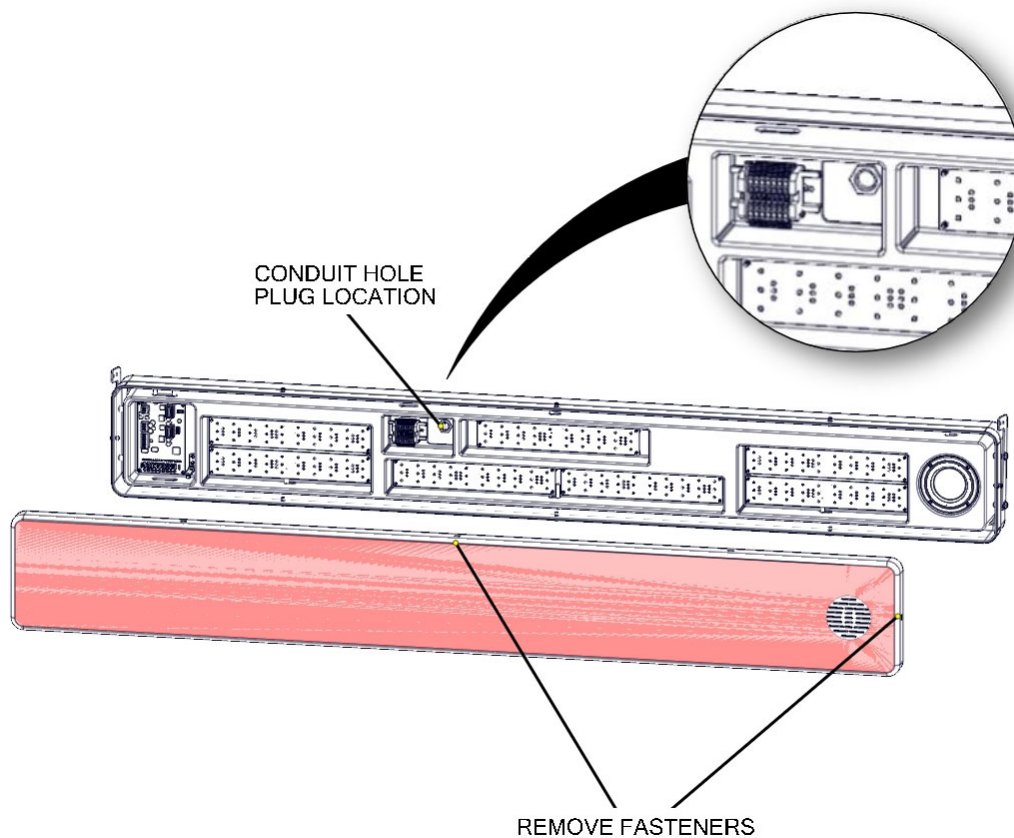

Figure 176 – Advanced Instructional Sign Preparation for Installation
- Remove the conduit hole plug located on the back of the sign base, Figure 176.